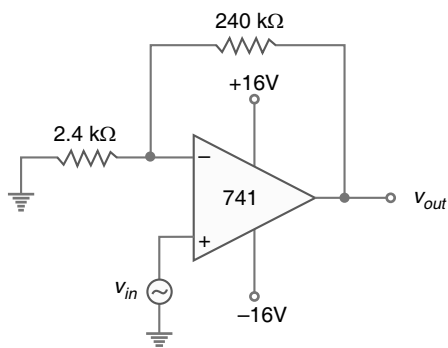

Fig. 23.57
**Example 23.32.** Calculate the output voltage from the noninverting amplifier circuit shown in Fig. 23.57 for an input of  $120 \mu\text{V}$ .